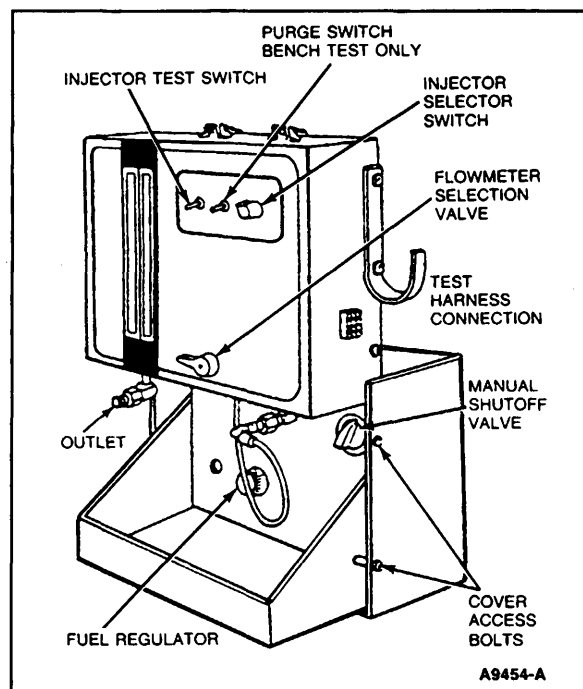
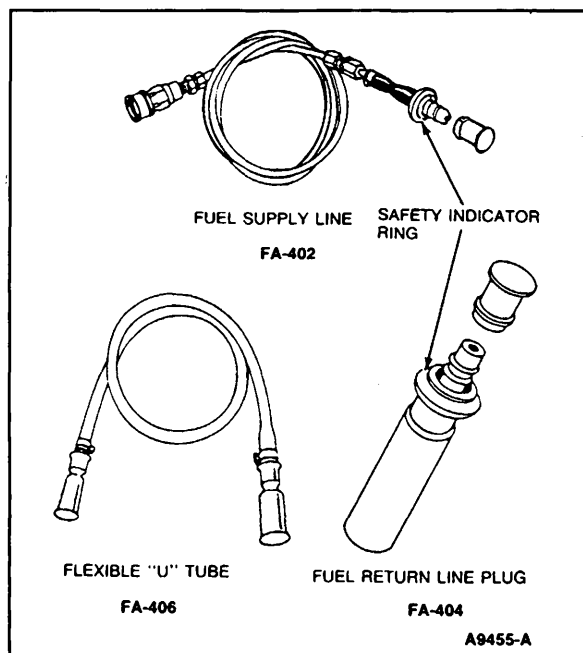

Figure 3
Figure 4
1. Check that the manual shutoff valve (Figure 3) at the back of test stand is in ON (open) position.
3. Connect the fuel supply hose FA-402 (Figure 4) to the fuel supply outlet (Figure 3) and to the Bench Fixture (Figure 9).
5. Connect the No. 1 tester harness connector (Figure 7) to the fuel injector. Turn the injector selector switch (Figure 3) to No. 1 position.
9. Press the injector test switch (Figure 3) and the purge switch together for about 30 seconds to eliminate air from the supply hose and injector.
11. Press injector test switch (Figure 3) to test injector, observe float in flowmeter.